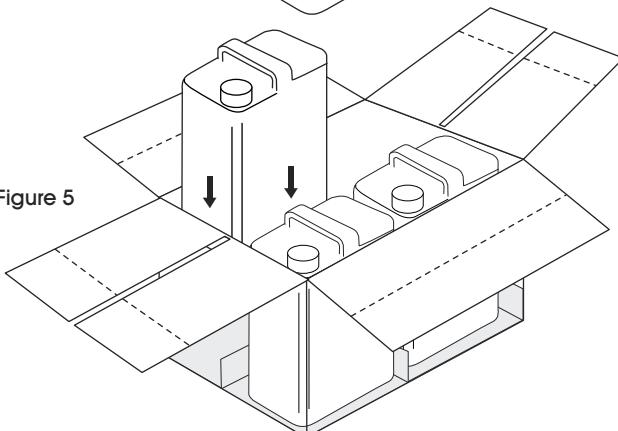

Figure 5
6. Place cans into carton – bottom first. (See Figure 5)